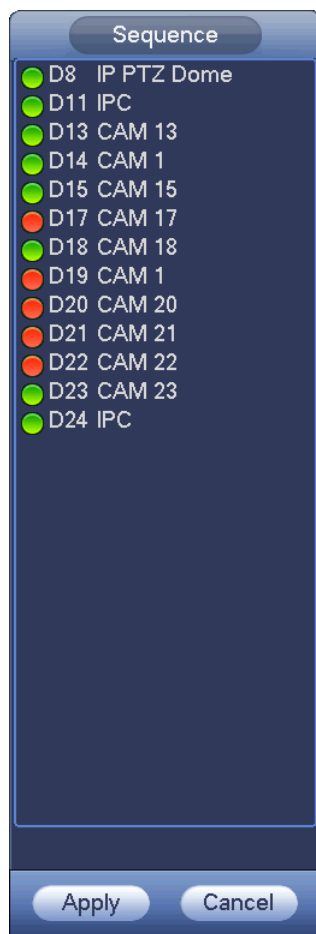

Figure 4-56
Enter edit view interface. See Figure 4-56.
- In case the channel amount has exceeded the device max split amount, the edit view interface can display the max screen number amount and current screen number. In Figure 4-56, click or , switch the video from other channel.